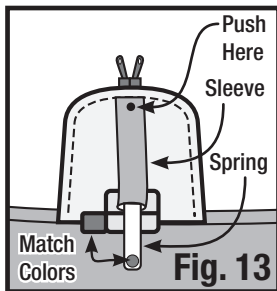

Fig. 13
NOTE: The springs are stored in the stake bag. Carefully unroll the springs. The color marking on each spring should match the color "flag" sewn to the window sleeve opening and always face the operator. (Fig. 13)
1. Close window and locate the sleeve in the window panel. Open the hook & loop fastener to insert spring. Close the hook & loop fastener. (Fig. 13)
2. Before opening the window, push in at top of the springs to activate the self-rolling feature. (Fig. 13)
3. Operate both zipper pulls at the same time to open and close the window. (Fig. 13 and 14)